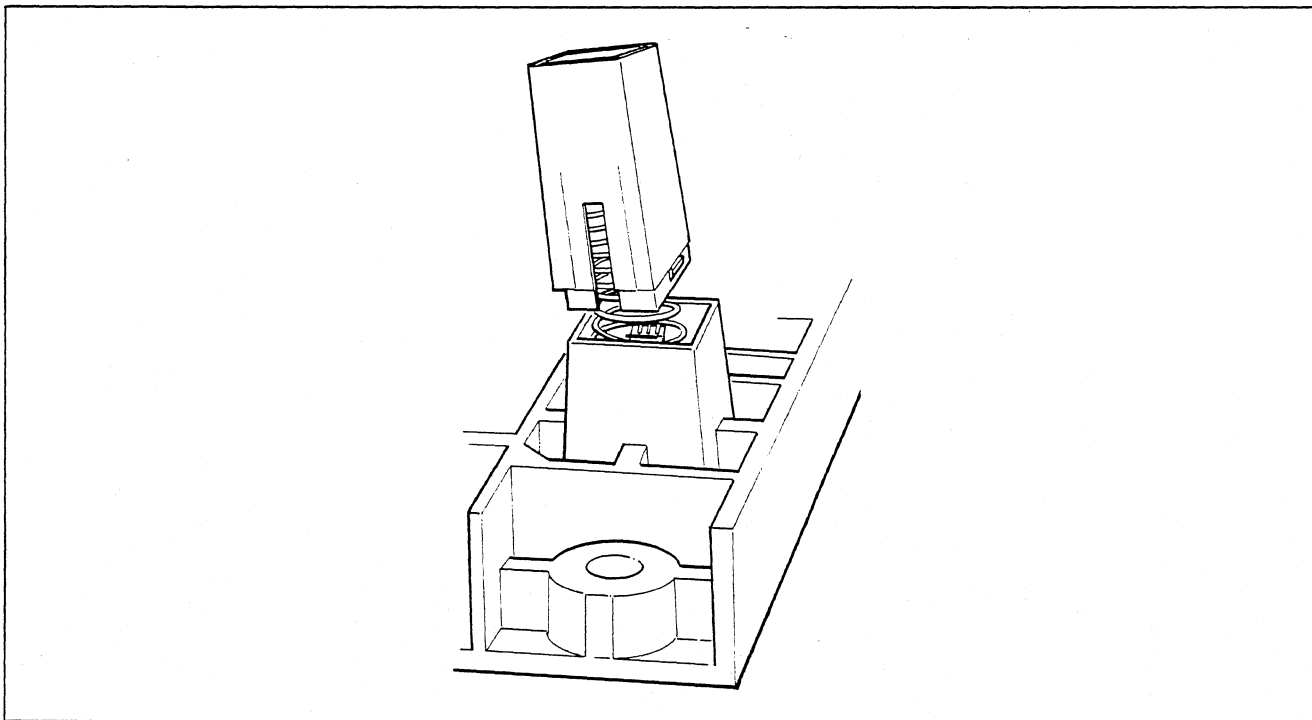

Figure 5-10.
- l. Replace the plunger making sure that the bar is parallel with the contact opening. Work the plunger down slowly, separating the contacts with the crossbar of the plunger (see **figure 5-10**).